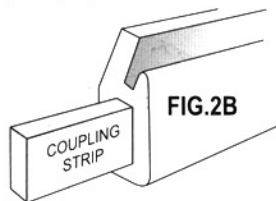

FIG.2A
- Turn a screw 1-2 turns into the plastic wall plug supplied (see Fig.2A) and push the plug with the screw attached into the hole just drilled. Gently tap